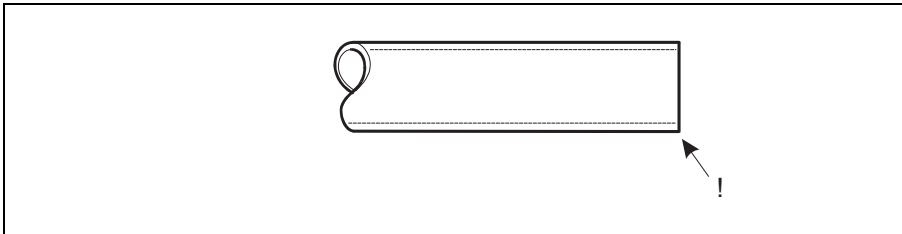

Figure 8.5 Cut at right-angles!
1. The pipe should be cut at right angles by means of a pipe cutter (see figure 8.5 and 8.6), after which it is deburred internally and externally, and carefully cleaned.